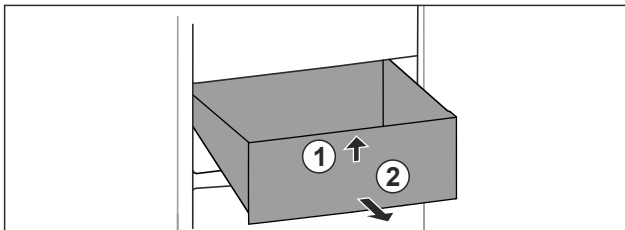

Fig. 67
- ▶ Lift up drawer at the front. *Fig. 67 (1)*.
- ▶ Remove drawer to the front. *Fig. 67 (2)*.